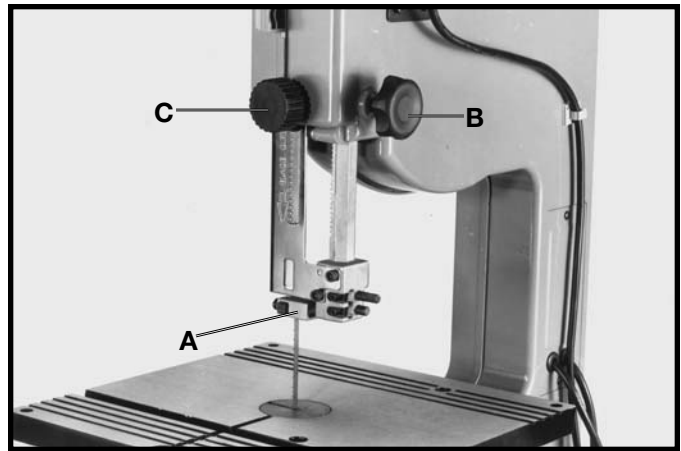

Fig. 31
The upper blade guide assembly (A) Fig. 31, should always be set about 1/8" above or as close as possible to the top surface of the workpiece being cut. Loosen lock knob (B) and rotate adjusting knob (C) to position the guide assembly (A) at the desired height. Then tighten lock knob (B).